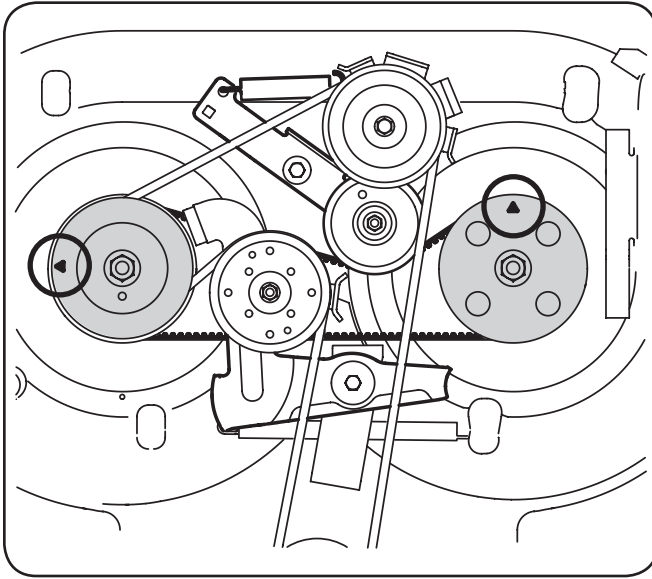

Figure 6-6
2. The top of each spindle pulley is marked with an arrow. See Fig. 6-6. The arrows should be perpendicular (at a 90° angle) to each other.